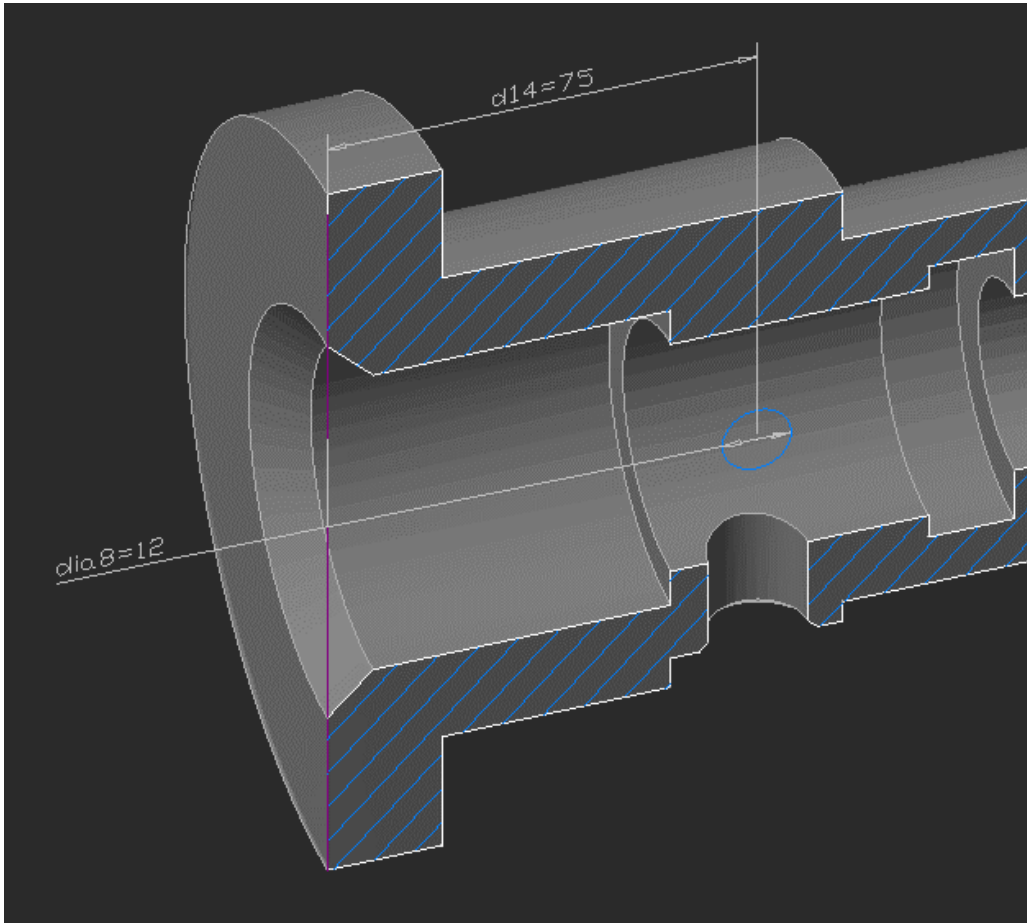

Fig. 26. The sketch for the $\varnothing 12$ hole
7.6. Create the sketch for the $\varnothing 12$ hole (Fig. 26) on the **YZ** plane. Project $\varnothing 140$ diameter edge to link the dimension of the hole by X axis. Set the **3D Extrude** options to **Through**, **Negative direction**.